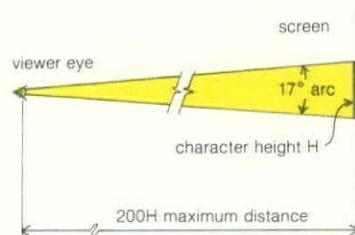
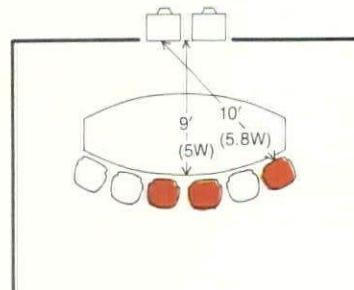
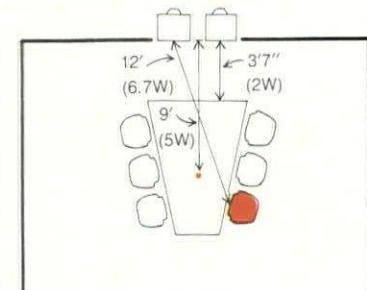

Figure 5
Figure 6
Figure 7
1. *The resolving capabilities of the human eye.* Generally, for good readability character height should subtend no less than 17 min of arc at the eye (Figure 5). Put another way, character height should be no less than 1/200 of the viewing distance.
Assuming 15 lines of text per page, and using the 1/200 criterion diagrammed in Figure 5, it can be calculated that a viewer should be no farther from the monitor screen than five times the screen width. We refer to this as the 5W rule. Given these conditions, the normal eye can easily and comfortably resolve the text or equivalent graphics. As a rule of thumb, the width of a television image is approximately 0.8 times the diagonal measurement. So if, for instance, we design for a 27-in. monitor, which has an image width of 21.6 in., and use the 5W rule, we find that a viewer should be no farther from the monitor than 9 ft. At the semicircular table shown in Figure 6, the participants at the center are at the prescribed range, though those sitting at the ends are slightly beyond optimum range.
It is also undesirable to have the nearest viewer less than 2W from the screen. Figure 7 illustrates the 2W and 5W rules applied to the wedge-shaped table and the resulting problems—that is, the nearest viewer sits almost at 2W while the farthest sits well beyond 5W at 12 ft.
If the television image is to be legible, it must be sized according to the eye's capacity to resolve it—that is, characters no smaller than 1/200 of the viewing distance (Figure 5). In the case of television monitors, the optimum viewing distance is five times the width of the monitor screen—the 5W rule; in the examples shown, 5W is taken as 9 ft for a 27-in. screen. At a
semicircular table (Figure 6), participants at the outer seats will be slightly beyond the best viewing range if those at the center are optimally located. At a wedge-shaped table (Figure 7), participants at the far end of the table sit at a distant 6.7W, while those nearer the monitors sit almost at 2W, considered the minimum.